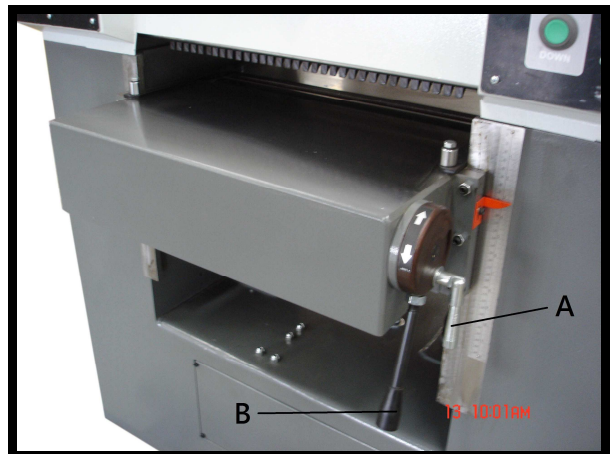
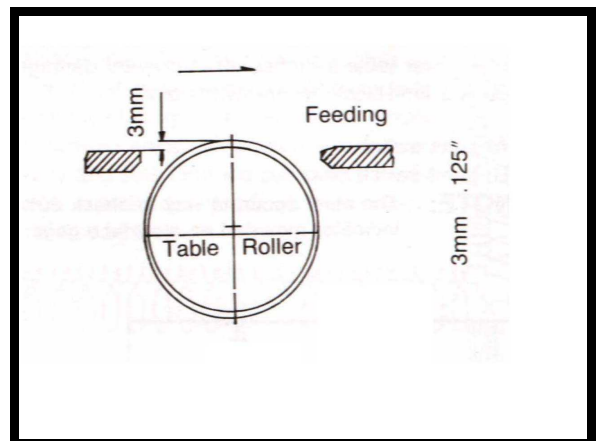

Fig. 8
Fig. 9
- A. Loosen lock handle (A) and move adjusting handle (B) up to the expected position as show in Fig. 8
- B. Lock handle (A)
2. Table rollers can be adjusted depending on working situation. However, the Max. adjustment height is .125" as shown in Fig. 9.